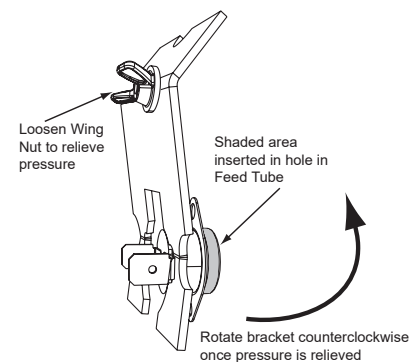

Figure 28.4
**NOTE:** You may need pliers to start the wing nut (**Figure 28.4**).